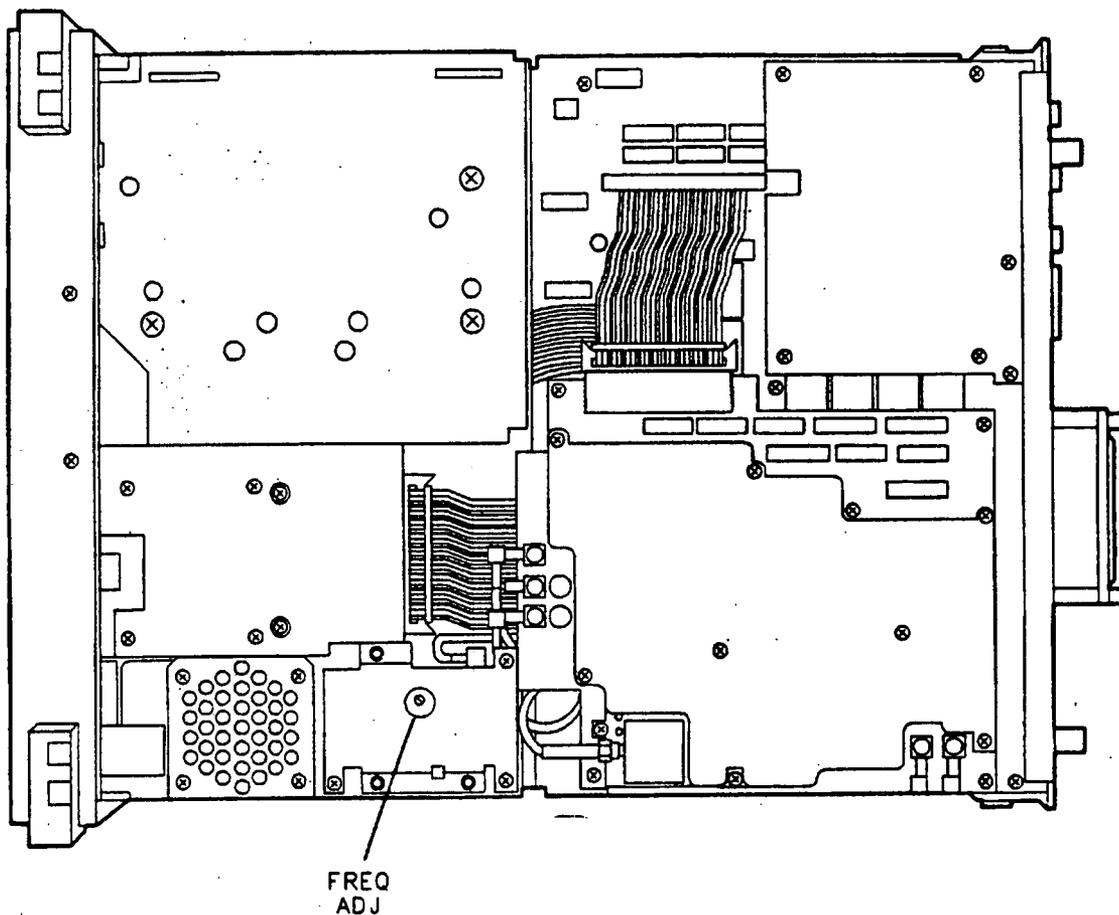

Figure 2-9. Oven Reference Adjustment Location
7. Locate the FREQ ADJ control. See Figure 2-9. Remove the dust cap screw.